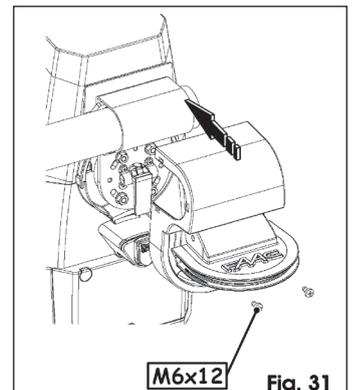

Fig. 31
- Position the housing that covers the release device, as shown in Fig. 31, and secure it using the two supplied screws.